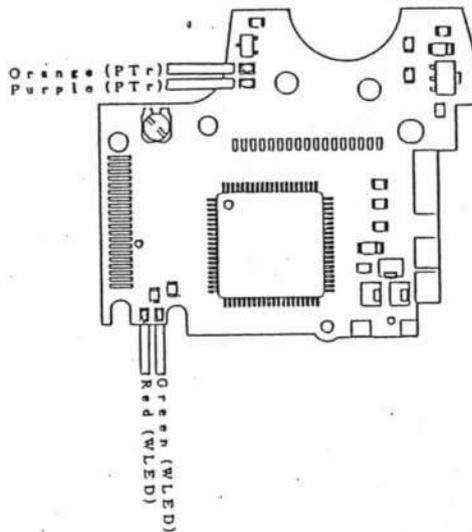

Fig.5
- (1) Detach the soldered portion of four LEAD WIRES (Red, Green, Purple, Orange) from the CPU PCB. (Fig.5)
- (2) Peel off the AE FPC (The part of )
- (3) Take off three SCREWS (No.4~6) and remove the LCD FRAME (No.7)
- (4) Take off two SCREWS (No.9) and remove the FPC HOLDER (No.10)
- (5) Take off one SCREW (No.12) and remove the RW BUTTON HOLDER (No.13) and the RW SW (No.14), then remove the CPU PCB (No.11)